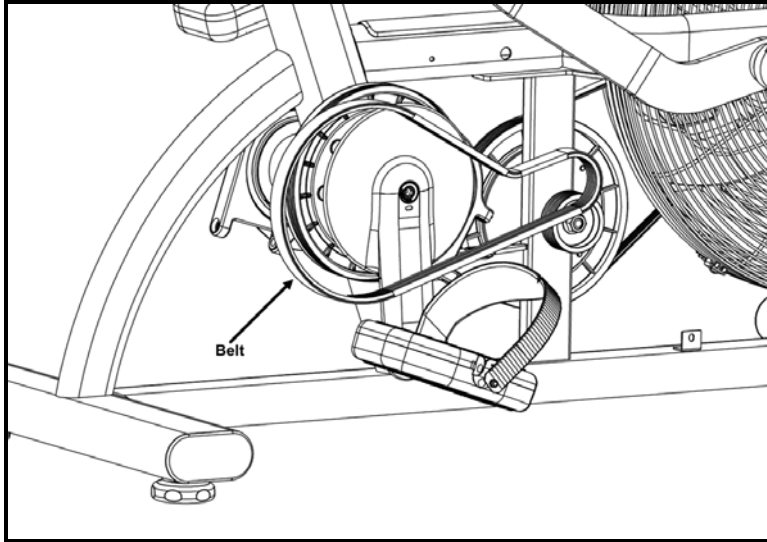

Fig. 8
8. From the user right side; maneuver the belt (Fig. 8) off the crank and transmission pulleys.